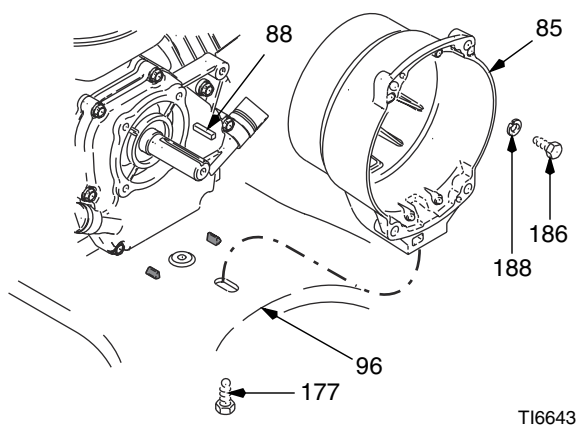

FIG. 10
1. FIG. 10. Remove four cap screws (186) and lock washers (188) which hold clutch housing (85) to engine.
2. Remove screw (177) from under mounting plate (96).
3. Pull off clutch housing (85).
1. FIG. 10. Push on clutch housing (85).
2. Install four cap screws (186) and lock washers (188) and secure clutch housing (85) to engine. Torque to 200 in-lb (22.6 N•m).
3. Install capscrew (177) from beneath mounting plate (96). Torque to 26 ft-lb (35.2 N•m).